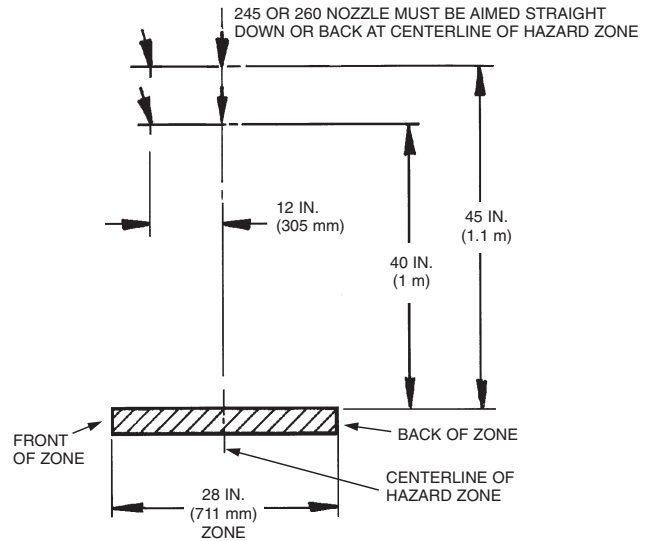

FIGURE 74
- ▶ 3. The overlapping appliance nozzles must be located 40 in. to 45 in. (1 m to 1.1 m) above the top surface of the protected appliances. See Figure 74.
- ▶ 4. The overlapping appliance nozzles must be located 0 in. to 12 in. (0 mm to 305 mm) forward of the centerline or aimline of the selected hazard zone. See Figure 74.